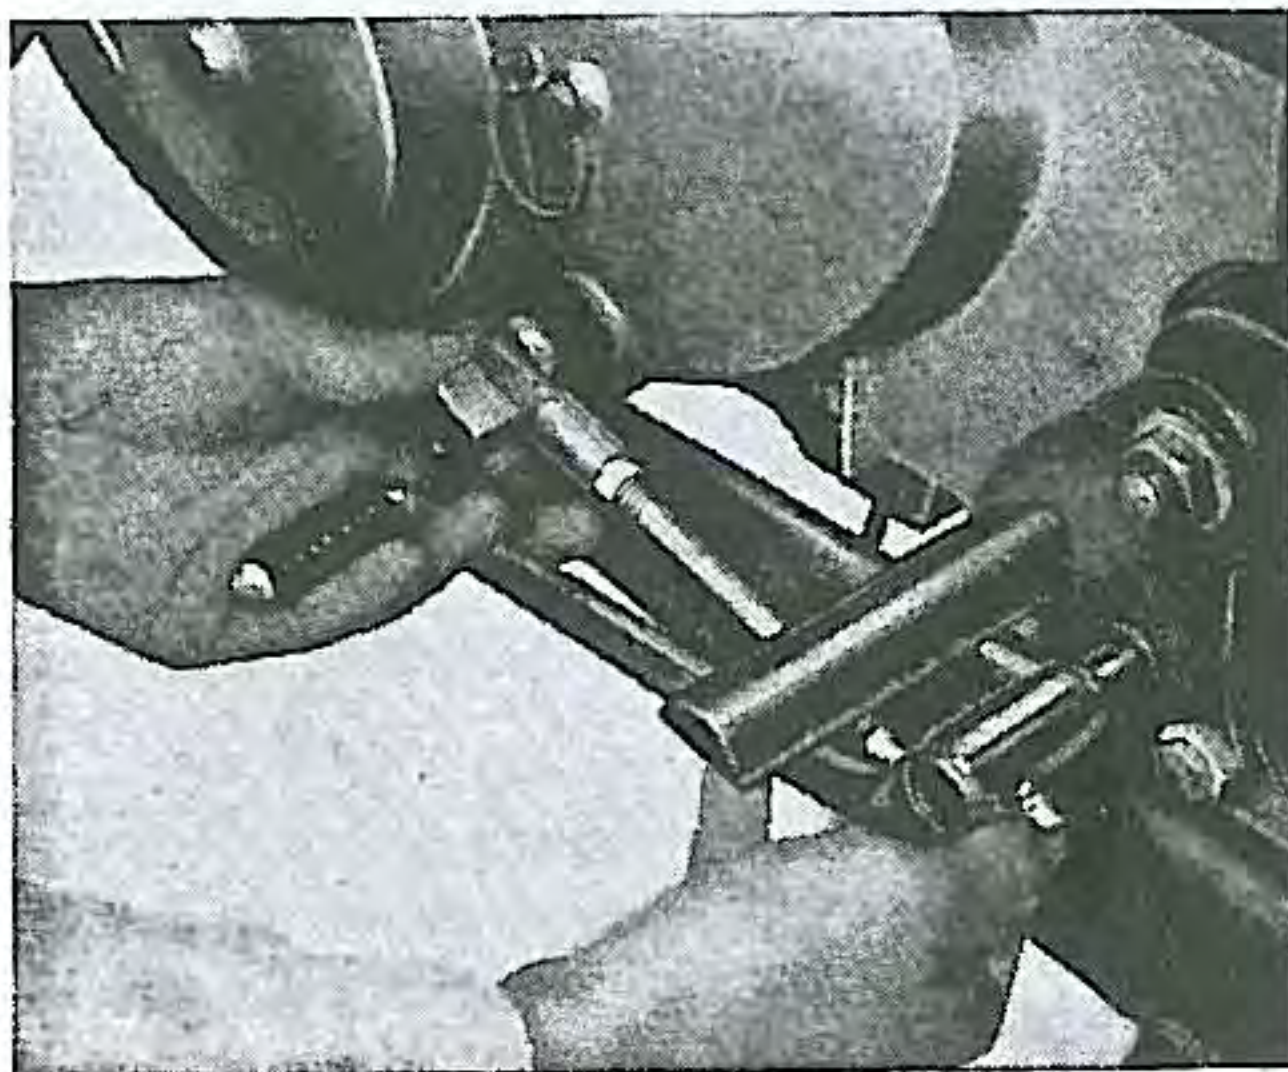
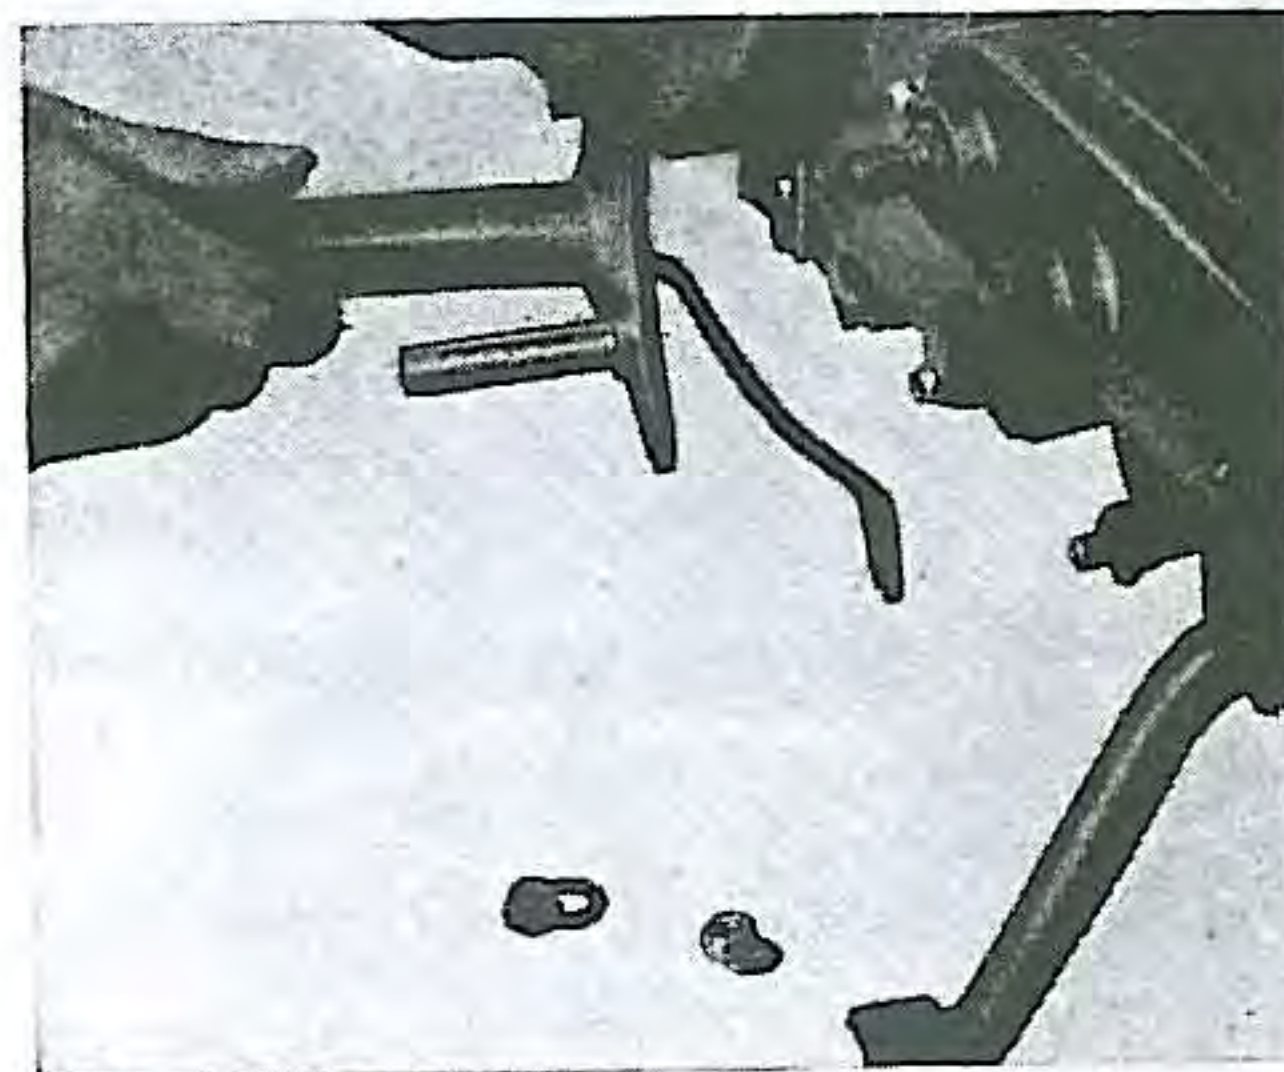

Fig. 6. Removing gear change pedal (CB92)
Fig. 7. Removing left foot rest carrier (CB92)
- (2) Remove the left side gear change pedal link from the engine and the left foot rest (Fig. 6) and remove the left foot rest carrier for CB92, CA95 engines. (Fig. 7)